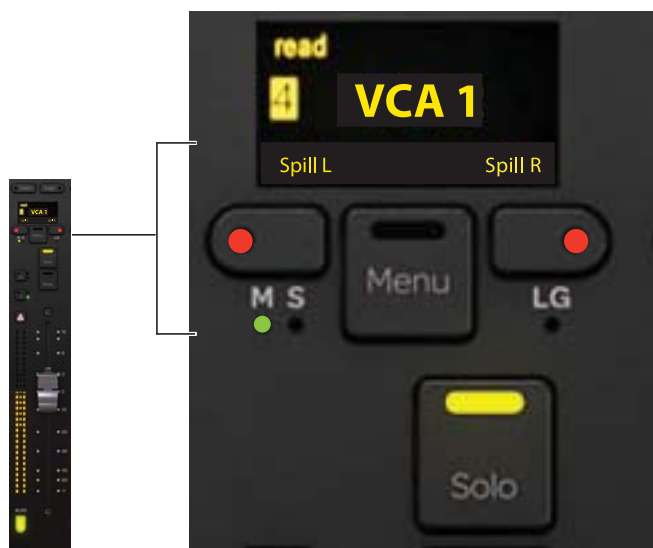

Figure 66. Spill controls and indicators when Menu switch is pressed, showing a VCA slave (S indicator LED lit yellow)
- 2 Press and hold **Menu** on that strip; The strip OLED shows Spill L and Spill R above the two switches next to Menu (see Figure 66). If the strip is the first or last strip in the system, only the one possible choice right or left) is available. While still holding **Menu**, press either adjacent switch to spill VCA slaves to the left or right. The spill occupies as many strips as necessary, temporarily replacing previously banked tracks.